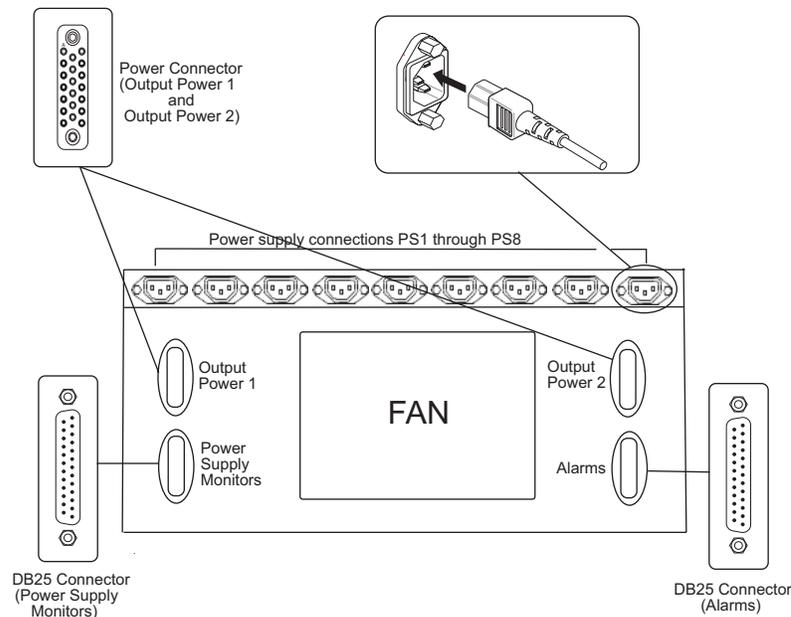

Figure 3-7. NV6257 Power Supply Power Supply (Rear View)
- 3 Facing the rear of the **NV6257**, connect the provided 20-pin GMCT connector to ‘Output Power 2’, as shown in Figure 3-7 on page 39.
- 5 Facing the rear of the **NV6257**, connect the provided 20-pin GMCT connector to ‘Output Power 1’, as shown in Figure 3-7 on page 39.
- 7 Facing the rear of the **NV6257**, connect the “Y” cable to ‘Power Supply Monitors’, as shown in Figure 3-7 on page 39.